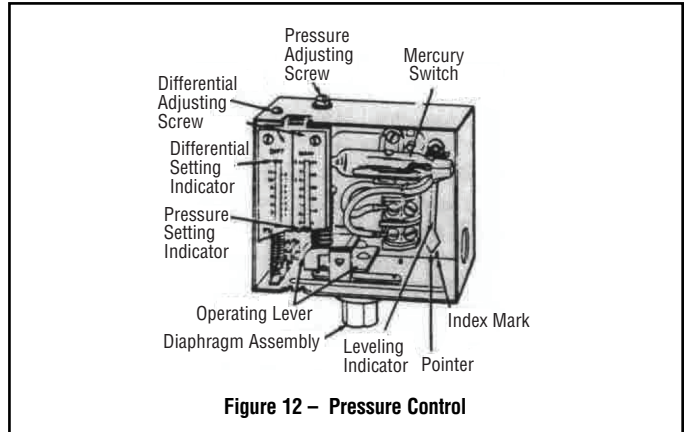

Figure 12 – Pressure Control
2. On all controls, the pressure adjusting screw on the top of the case sets the desired pressure. Turning the screw counterclockwise reduces the pressure setting (see Figure 12). High limit control should be set at 10 psig above the operating pressure of the boiler.